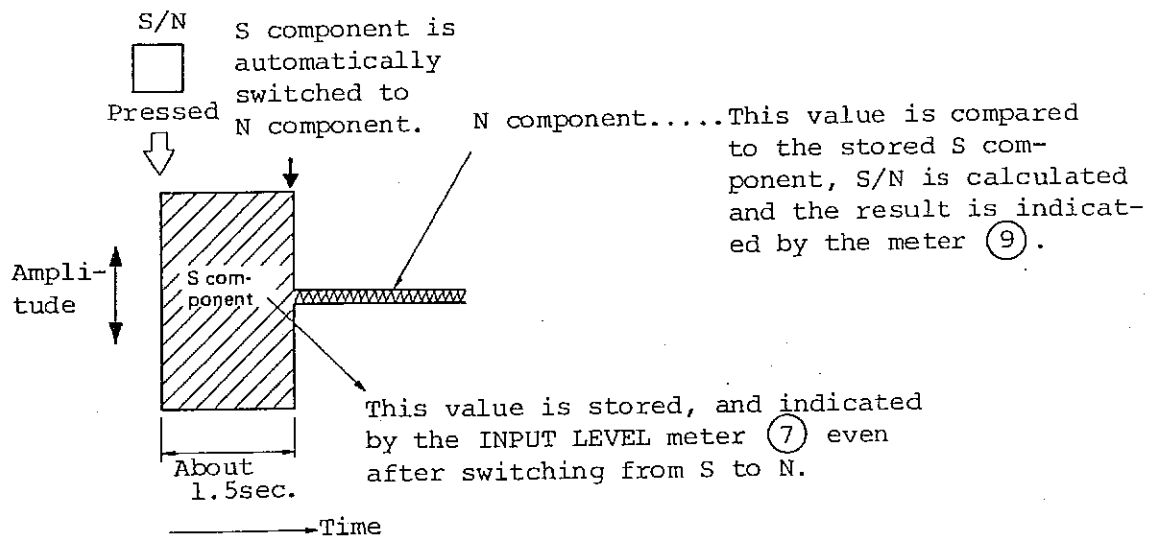

Fig. 4-3 S/N measurement
- 35) The S/N ratio is calculated as the ratio of the S (signal) component to N (noise) component. The meter (9) indicates the result. Pressing the S/N key causes the analyzer to operate as shown in Fig. 4-3.
- 36) As shown in Fig. 4-3, pressing the S/N key causes the output of the oscillator to be stored as the S component. (In this case, 10-dB signal is applied to the measurement circuit because the output amplitude of 4.0 dB is displayed, and the output is not terminated with a 600-ohm load.) The INPUT LEVEL meter (7) goes into the 10-dB range and indicates 10 dB (3.2 V). The S/N meter (9) is placed in the 0-dB range. The operation described above is performed for 1.5 seconds as shown in Fig. 4-3. The S component is then eliminated and only the N component is left. (The S component input level of 10 dB is stored and the INPUT LEVEL meter (7) retains the deflection.) Because the oscillator provides no output, most of the N component is the residual noise within the measurement circuit. The S/N ratio is calculated from the stored S level and the residual N level; the range of the meter (9) automatically changes, and the meter provides direct indication of the S/N ratio.
- 37) The REF ADJ knob (10) has no effect while the S/N ratio is measured.
- 39) The meter range can be switched manually by pressing the RANGING key (14) with the LED in the key on indicating MANUAL mode. In this mode, after the S/N key is pressed and the S component stored, the 0-dB meter range display LED is lit if the input meter range is appropriate for the input S component level. To read the S/N ratio, lower the range to the desired level by pressing the  $\nabla$  key of the MEASUREMENT RANGE select keys (13). If an incorrect input meter range is selected, either LED built in the INPUT RANGE OVER/UNDER keys (15) annunciates, indicating excessive input (OVER) or too little input (UNDER) for 1.5 seconds of S component measurement period. Select another range by pressing the key until the annunciator goes off during S component measurement. When the key is pressed, S/N will be measured without the need of pressing the S/N key again.